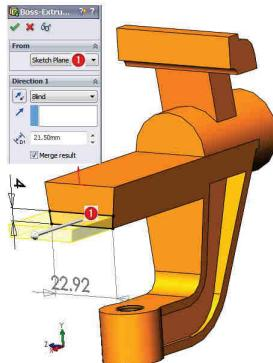

Fig. 2.13
**20 Trasare contur patrulater:** Comanda Sketch – Fig. 2.13 – plan ①.
**21 Extrudare contur patrulater:** comanda Extruded Boss/Base  - Fig. 2.13 - Blind /  $\text{D}_1$  21.5 mm distanță / .
**20 Sketching of the quadrilateral contour:** The Sketch command – Fig. 2.13 – plane ①.
**21 Extrudation of the quadrilateral contour:** the Extruded Boss/Base  command - Fig. 2.13 – Blind /  $\text{D}_1$  21.5 mm distance / .